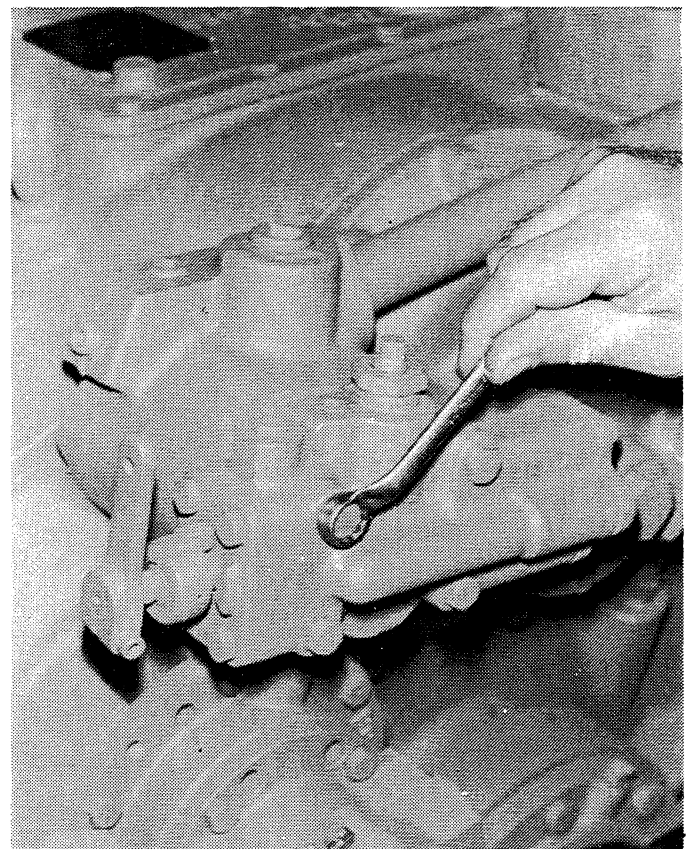

Figure 6-1. Removing or Installing Control Valve.
1. Remove the four hex-head screws (Figure 12-1, 49 and 52) that secure the control valve to the manifold and remove the control valve and gasket. See Figure 6-1.